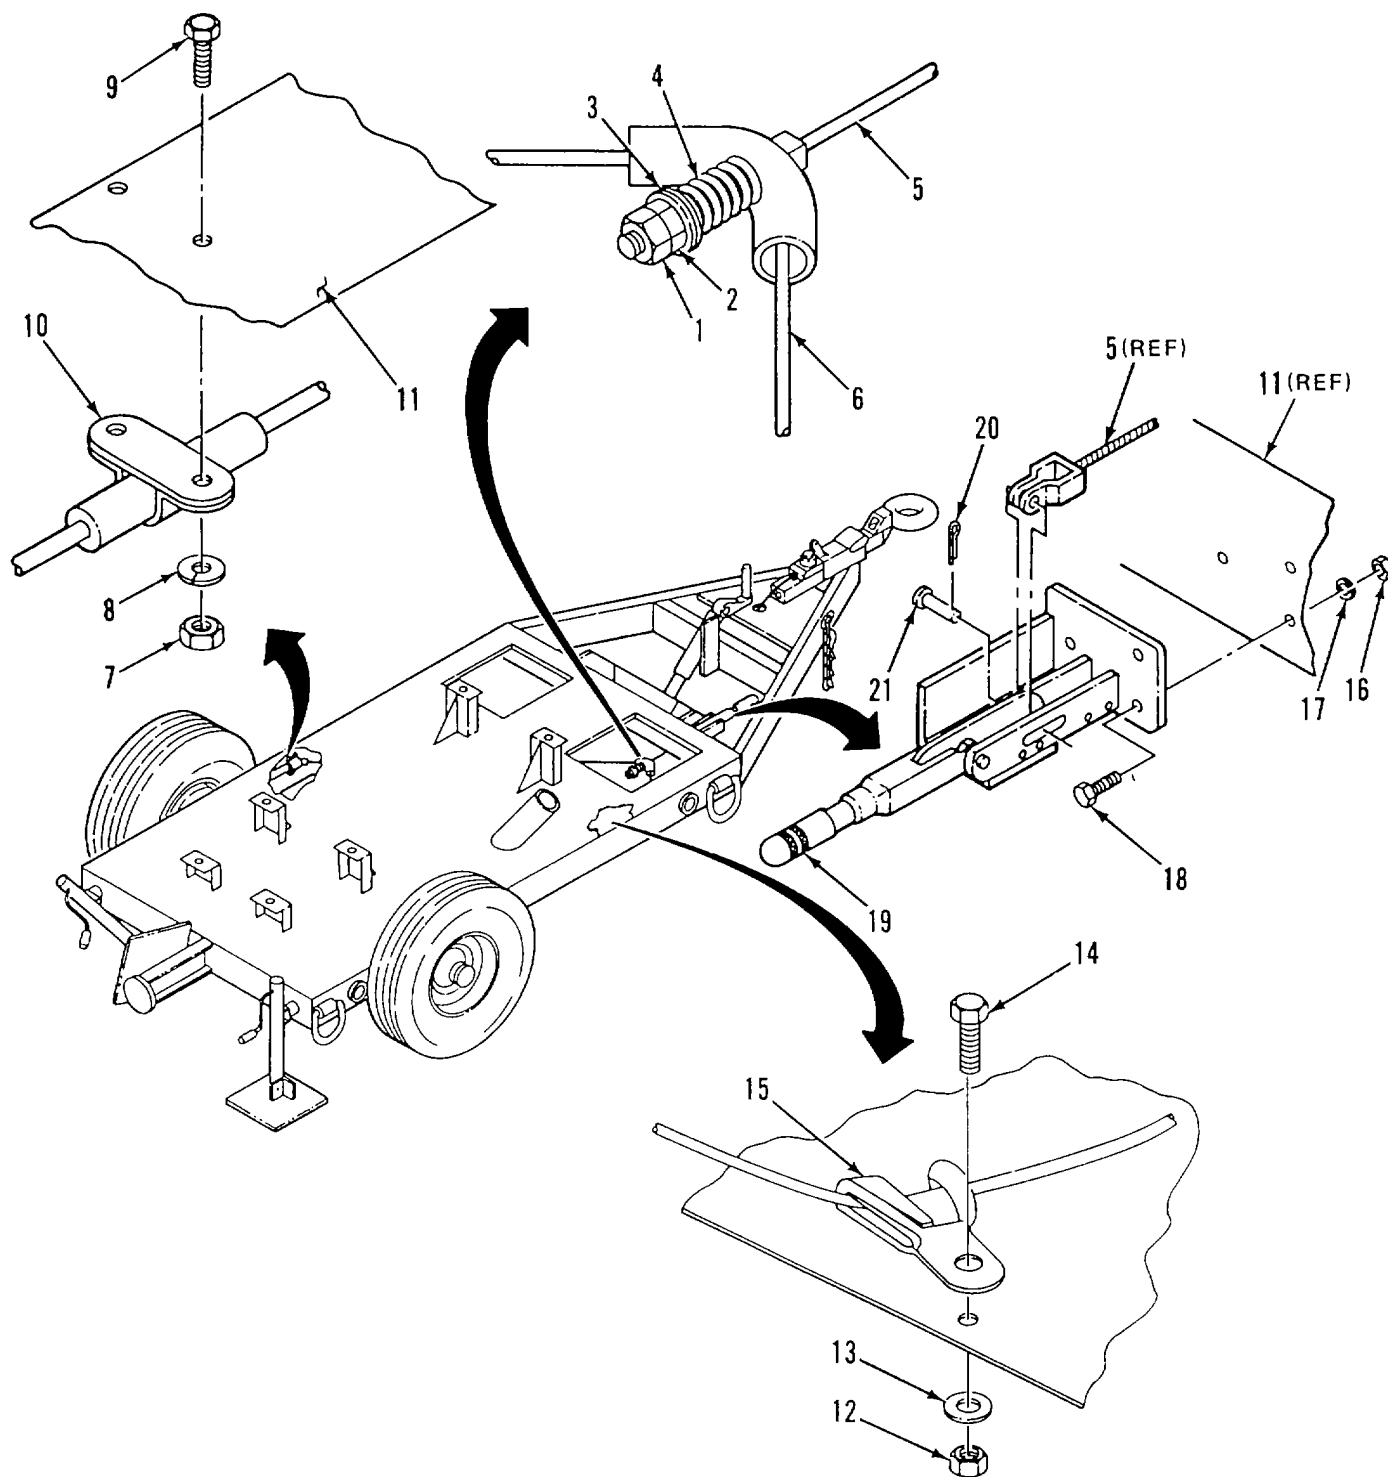

Figure 2-48. Hand Brake Assembly
a. REMOVE. (Figure 2-48)
- (1) Release handbrake lever (19).
- (2) Remove nuts (1 and 2), flat washers (3), and spring (4) holding rear cable (6) to front cable (5).
- (3) Remove nuts (7), lockwashers (8), and bolts (9) holding two cable hanger clamps (10) to trailer chassis (11).
- (4) Remove nut (12), lockwasher (13), and bolt (14) holding two clamps (15) to trailer.
- (5) Remove front cable (5) from handbrake lever (19).
- (6) Remove nuts (16), lockwashers (17), and bolts (18) holding handbrake lever (19) to trailer chassis (11).
- (7) Remove cotter pin (20) and pin (21) holding front cable (5) to handbrake lever (19).